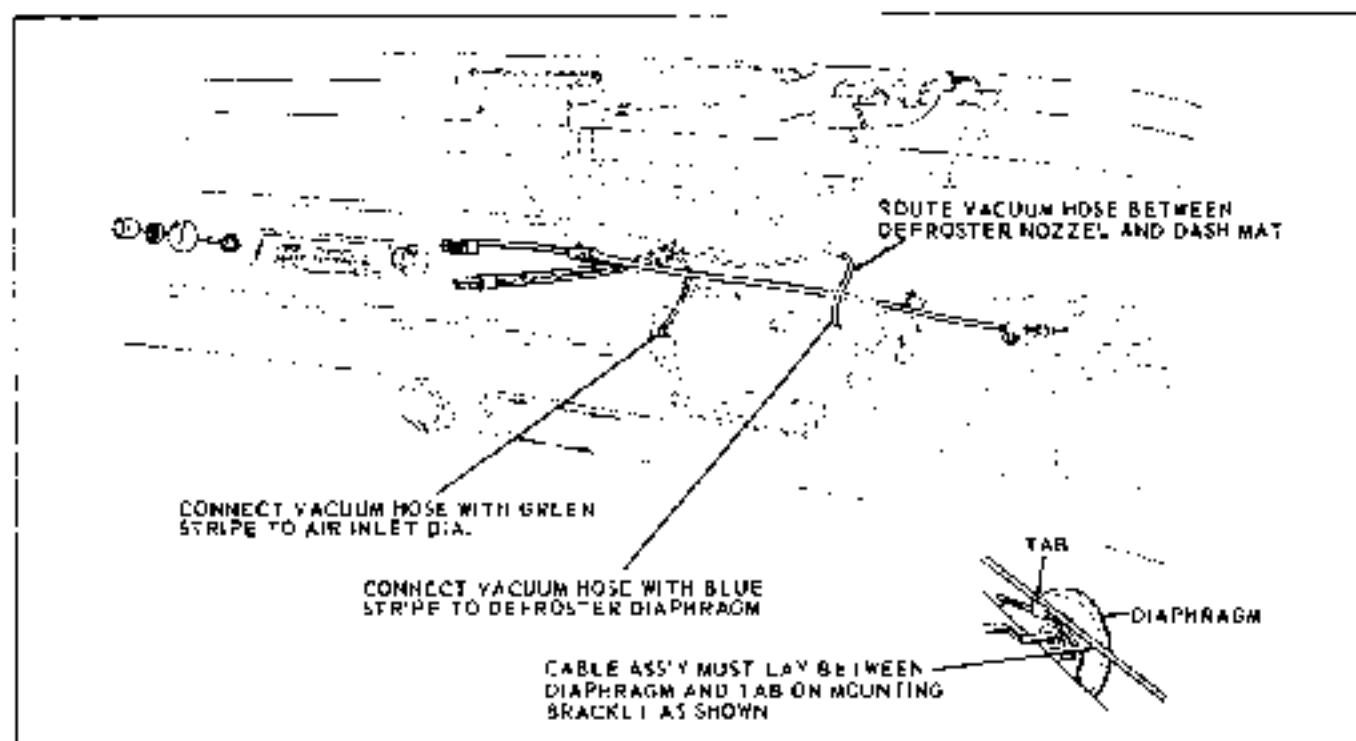

Fig. 1-1 Passenger Compartment Heater—Pontiac
3. Adjust turnbuckle until cam roller bottoms at end of heater cam slot (Fig. 1-1).
1. Pull off control knobs from panel and remove bezels from left and right switches (Fig. 1-1).
BLOWER MOTOR RESISTOR—ALL REMOVE AND REPLACE (Fig. 1-1) TYPICAL